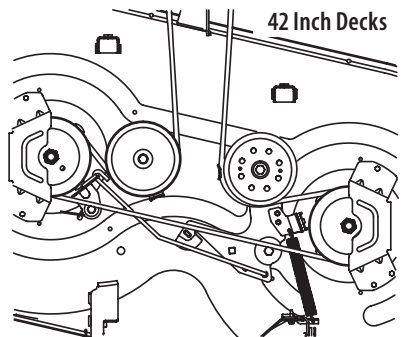
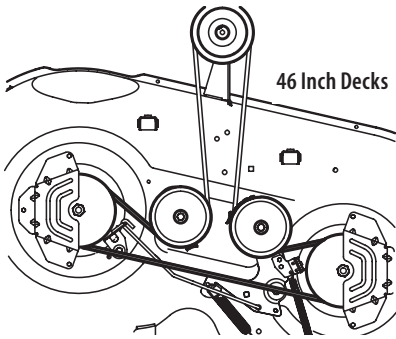
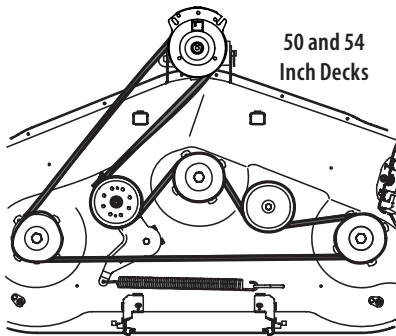

Figure 52
Figure 53
Figure 54
4. Route the new belt as shown in the applicable figure below. See Figure 52 (42 inch decks) and page 34 for Figure 53 (46 inch decks) and Figure 54 (50 and 54 inch decks).